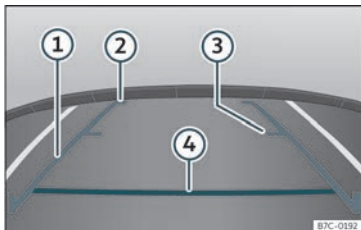

Fig. 248 Display on the Easy Connect system screen: guide lines.
- Vehicle load modifies the representation of the guide lines >>> Fig. 248. The width represented by the lines decreases with vehicle load. Pay special attention to the surroundings when the inside of the vehicle of the luggage compartment are loaded.
»» **Fig. 248**